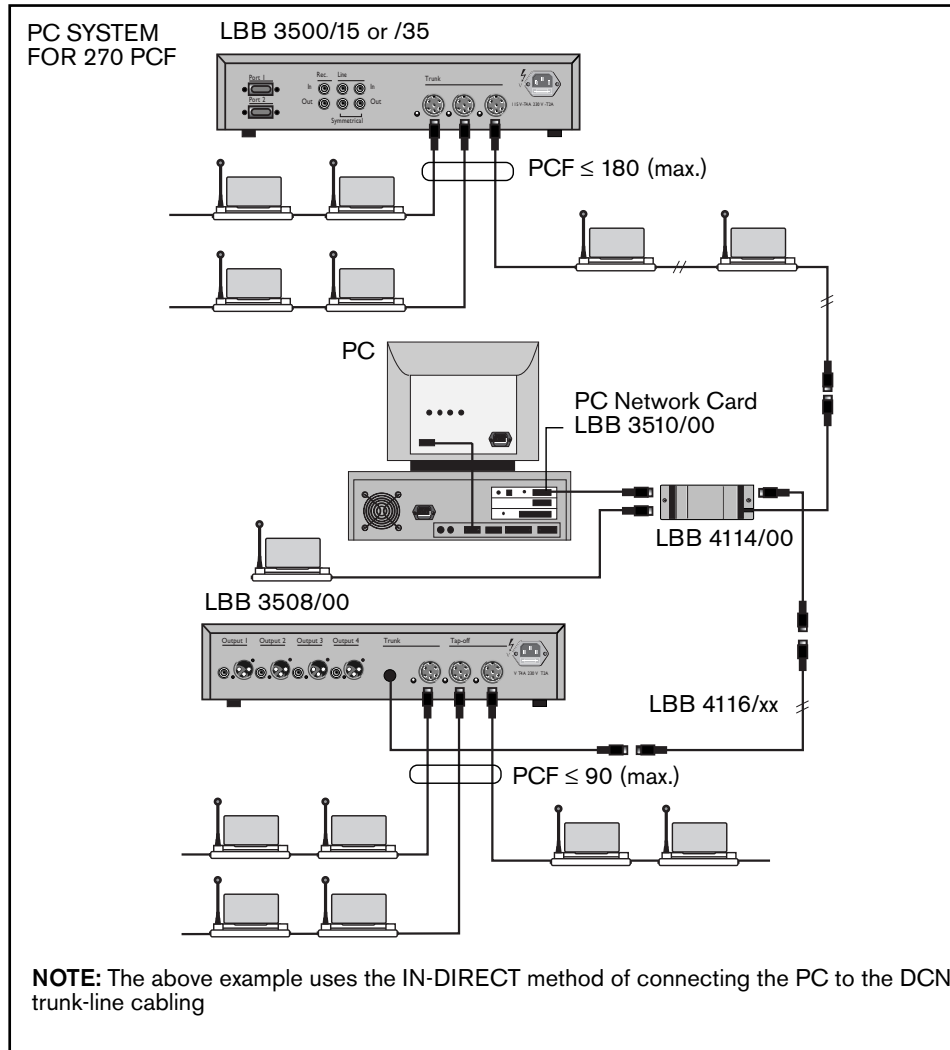

FIG 10-18 PC Control for a PCF of 270
FIG 10-18 shows a PC system catering for 270 PCF. An Audio Media Interface Unit LBB 3508/00 is used to extend the system by 90 PCF. Because the Network card (PC) has no loop-through facility, a trunk splitter LBB 4114/00 is used.